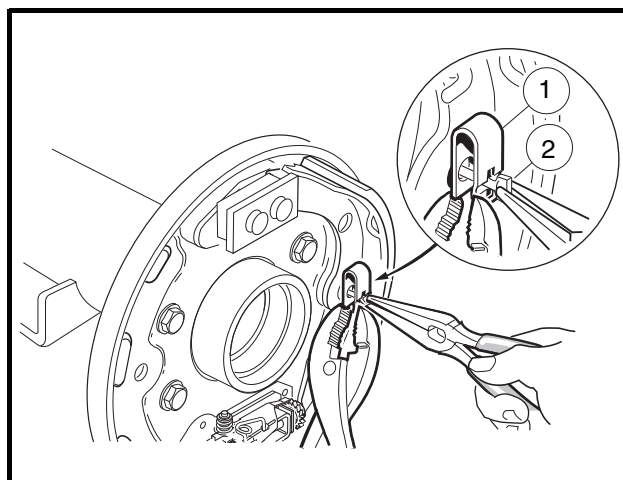

Figure 6-13 Retainer Clip
2. Install the shoe retainer clip (1). Compress clip while turning retainer pin (2) into position (**Figure 6-13, Page 6-6**).